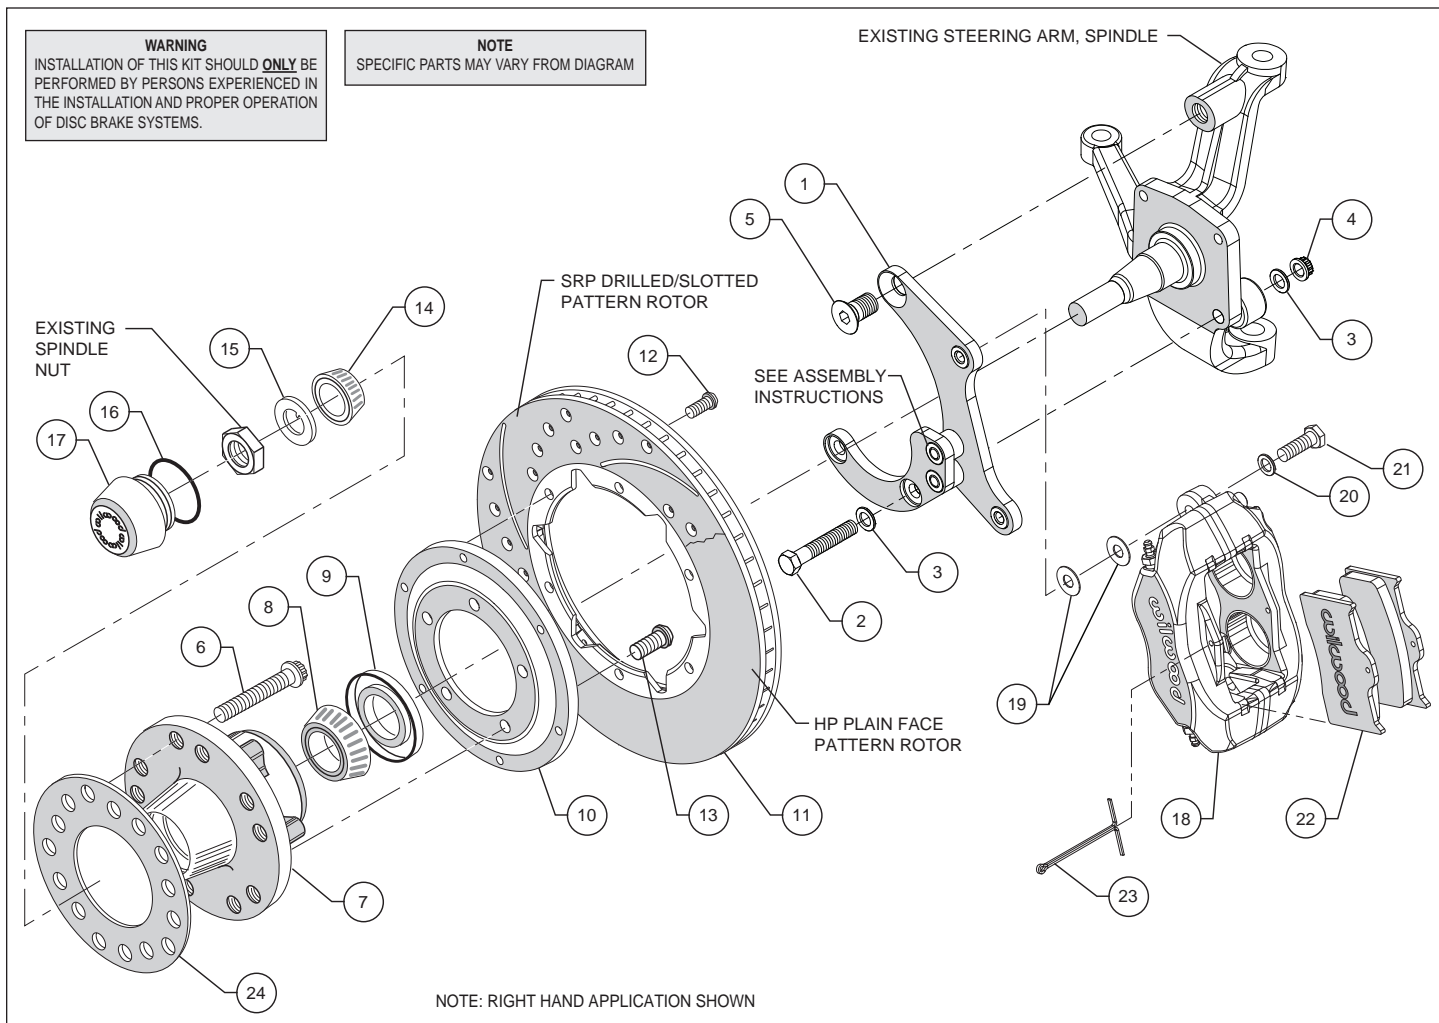
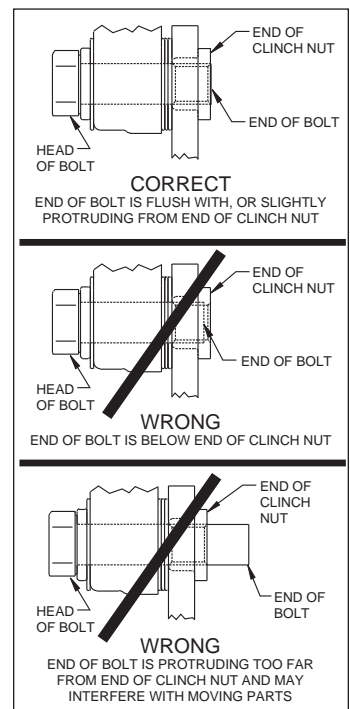

Figure 1. Typical Installation Configuration
Figure 4. Clinch Nut Engagement Diagram
**Assembly Instructions** (numbers in parenthesis refer to the parts list and Figure 1 on the preceding pages): **CAUTION:** All mounting bolts must fully engage clinch nuts. Be sure to check that all bolts are either flush or protruding through flanged side of clinch nut after shimming, Figure 4.
- The caliper mounting bracket (1) has been assembled at the factory for alignment purposes. Loosen the two bolts that secure the brackets together so that the bolts are hand tight only, this will enable the bracket assembly to be adjusted to accommodate various spindle tolerances during assembly. Align bracket with the two lower holes on the spindle face and attach using bolts (2), washers (3), and secure using lock nuts (4), as shown in Figure 1 and Photo 1. Install bolt (5) through top of bracket and into the spindle. Temporarily tighten the mounting bolts. Ensure that the flanged heads of the clinch nuts in the bracket are facing outboard, Photo 1. **NOTE:** The bracket must fit squarely against the mounting points on the spindle. Inspect for interference from casting irregularities, machining ridges, burrs, etc. Torque lower bolt nuts to 47 ft-lb. Remove the upper bolt, apply red *Loctite*® 271 to threads, and torque to 140 ft-lb. Remove one at a time the bolts that secure the bracket assembly to each other, apply red *Loctite*® 271 to the threads and torque to 40 ft-lb.
- Orient the rotor (11) and the rotor adapter (10) as shown in Figure 1 and Photo 4. Attach the rotor to the adapter using bolts (12). Using an alternating sequence, apply red *Loctite*® 271 to the threads, and torque to 25 ft-lb.
- Mount the adapter/rotor assembly (10/11) to the hub (7) using bolts (13), as shown in Figure 1 and Photo 5. Using an alternating sequence, apply red *Loctite*® 271 to the threads, and torque to 55 ft-lb.
- NOTE:** *Please reference the caution statement at the beginning of the assembly instructions.* Mount the caliper (18) onto the caliper mounting bracket (1) using bolts (21) and washers (20), as shown in Figure 1. Initially place two .035" thick shims (19) on each bolt between the caliper and the bracket, Photo 8. Temporarily tighten the mounting bolts and view the rotor (11) through the top opening of the caliper. The rotor should be centered in the caliper, Photo 9. If not, adjust by adding or subtracting shims between the bracket and the caliper. Always use the same amount of shims on each of the two mounting bolts. **NOTE:** *The end of each bolt must be flush with or slightly protruding from the head of the clinch nut, as shown in Figure 4.* If necessary place spare shims between washer (20) and caliper mounting ear to achieve the proper clinch nut engagement. Once the caliper alignment and clinch nut engagement are correct, remove the bolts one at a time, apply red *Loctite*® 271 to bolt threads, and torque to 40 ft-lb.